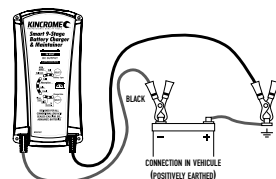

Fig 3
- FIRST Connect the BLACK (-) Crocodile clip or optional ring terminal lead to the (-) battery terminal and then connect the RED (+) Crocodile clip or optional ring terminal lead to the vehicle's chassis (Fig 3).